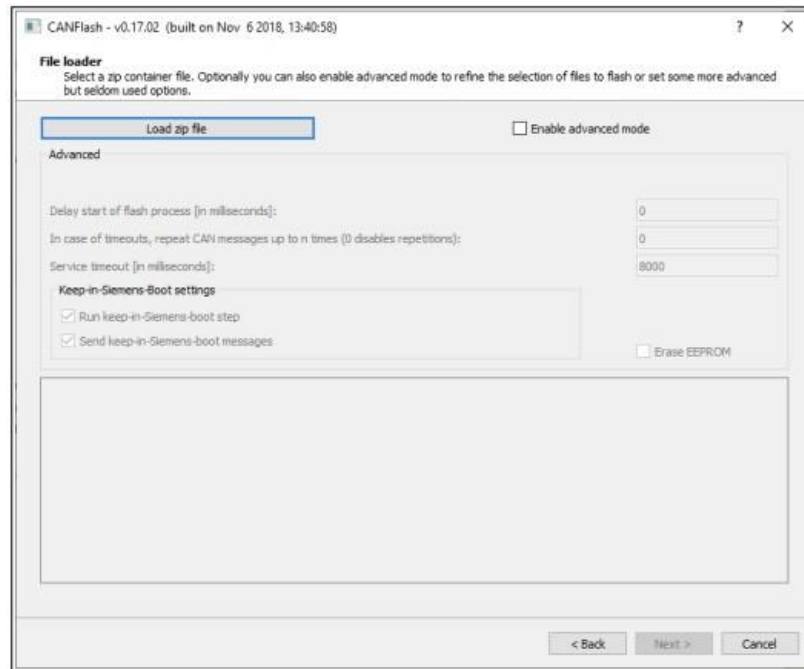

Figure 5: Load zip file in CANFlash
30. Click **Load zip file**. Select zip file CUV2_ASM_NFL_60ftZF_Mot1_X6a06026030 (see figure 5 below). Click **Next** when complete.
38. Click **Load zip file**. Select zip file IPMCTRL_NFL_60ftDB2016_V1_X6c06126034 (see figure 5 above). Click **Next** when complete.